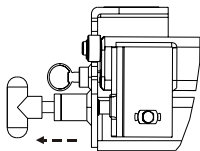

Figure 4-16
5. Verify the upper arm is locked and does not move. *See Figure 4-16.*